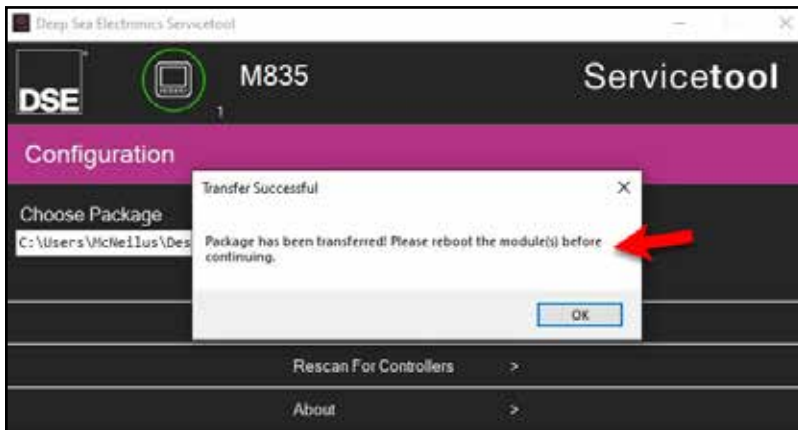

Figure 11
11. When the loading is complete, the DSE Service Tool will request that you cycle the power to the module (Figure 11).